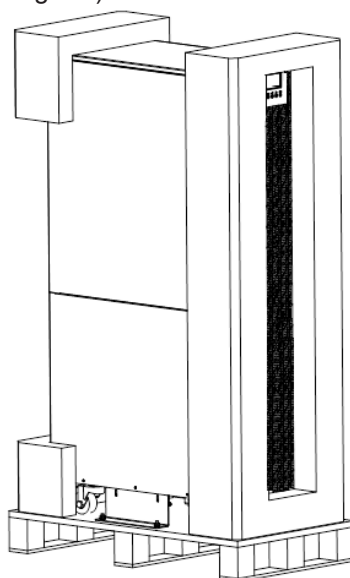

Fig.2-4 Disassemble the case
3. Unpack the package (see Fig.2-4).